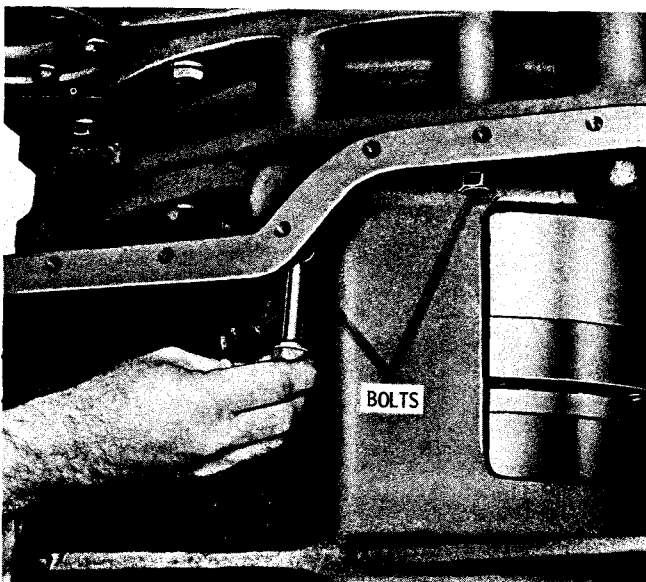

Fig. 7-63. Installing converter housing bolts at bottom of transmission (CBT, CLBT, VCLBT)
(2) Install seven 1/2-13 x 1 1/2-inch bolts and lockwashers and twelve 1/2-13 x 5-inch bolts and lockwashers into the converter housing. The short bolts go through the front flange of the retarder housing; the long bolts through the front of the transmission housing and through the retarder housing. (Two of the 5-inch bolts are located in the bottom of the transmission (fig. 7-63).) Tighten the bolts to 67 to 80 pound feet torque.